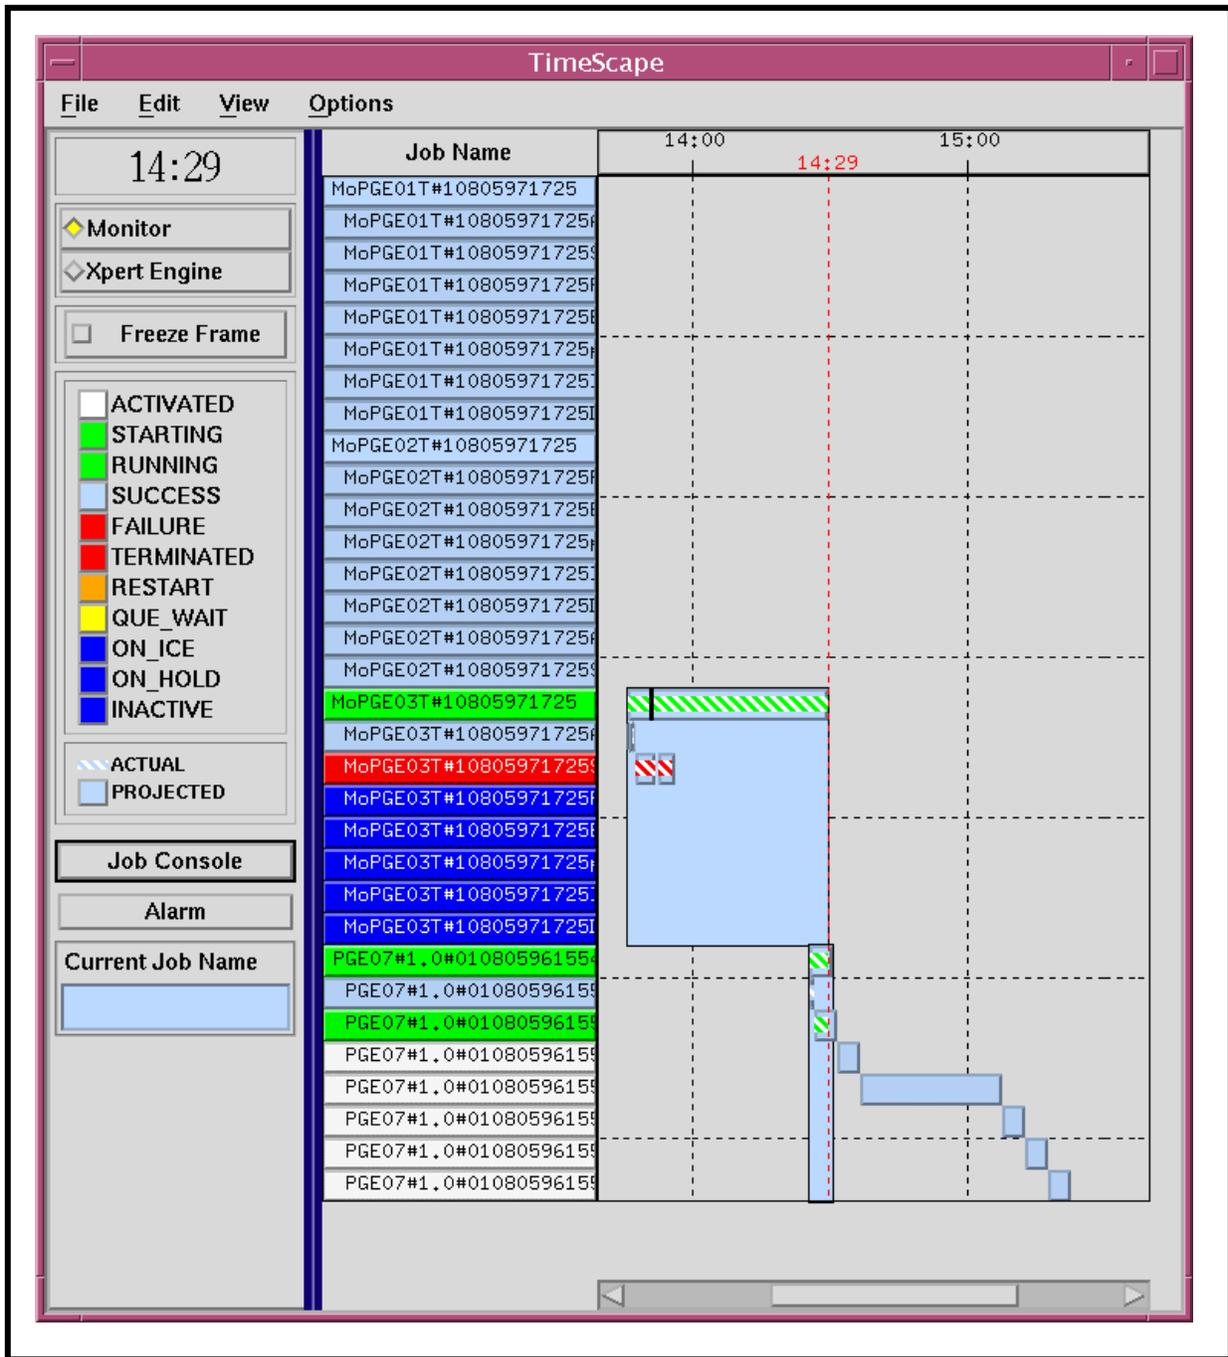
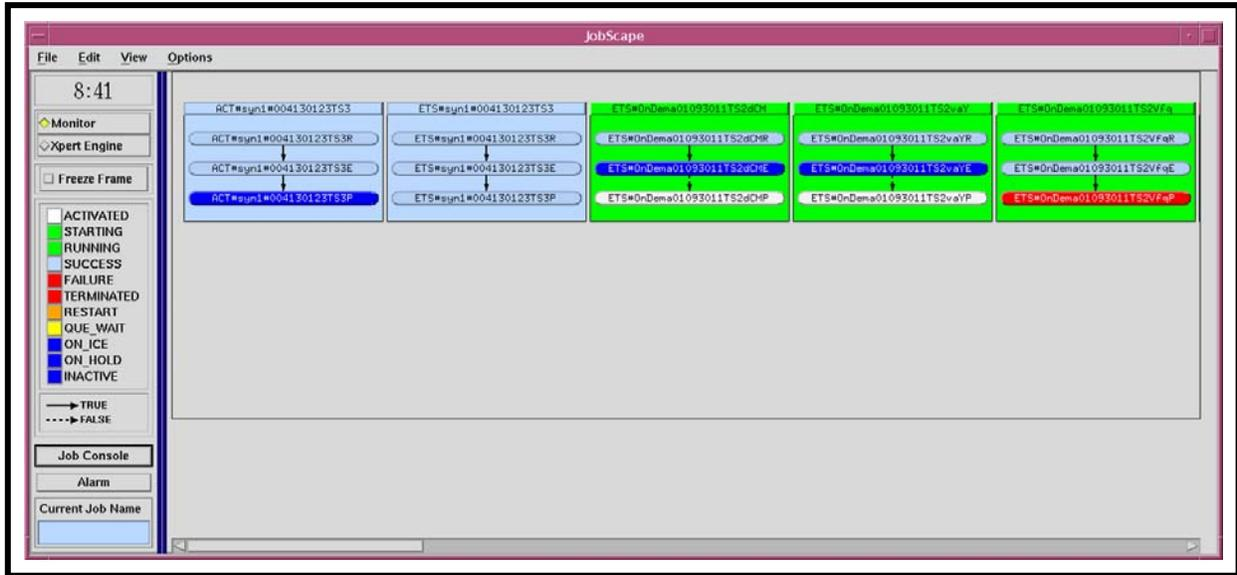

Figure 55. TimeScape Interface
Figure 56. JobScope Interface
- The interface corresponding to the selected button is displayed (Figure 55 or Figure 56).